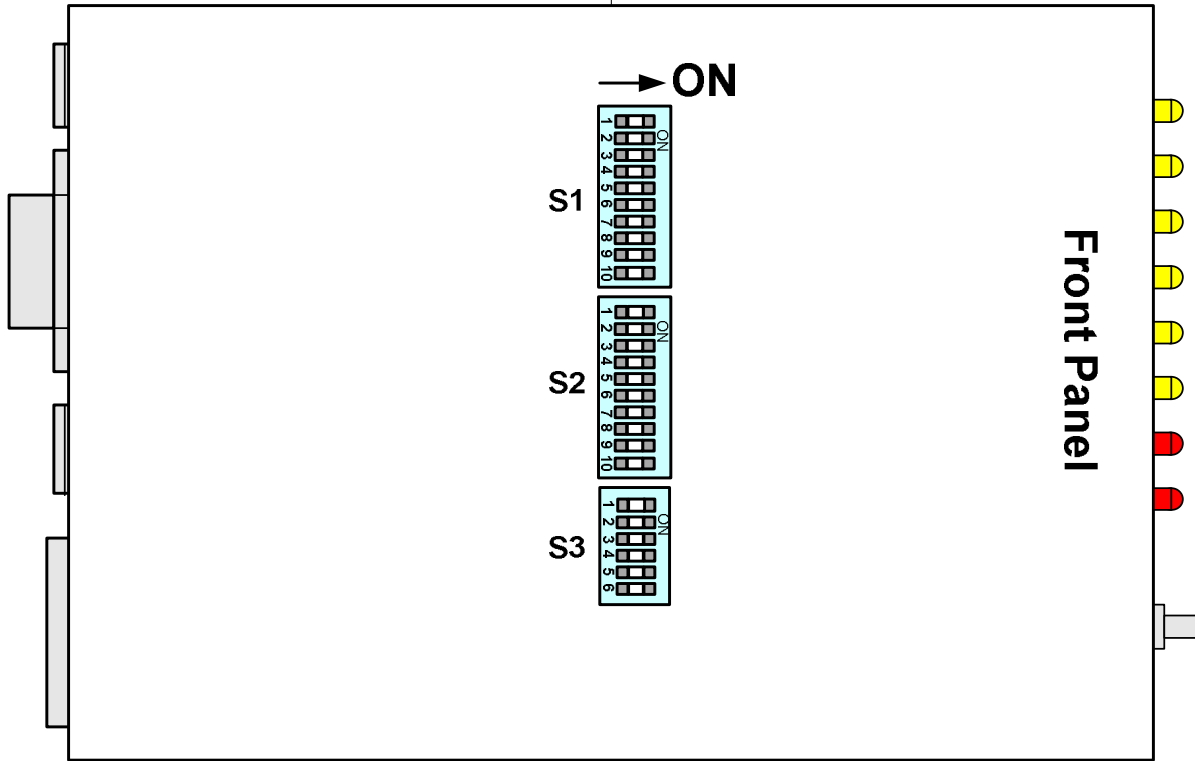

Figure 2-4. SM19202 Fast-Poll Stand-alone Modem Switches
2. Due to re-designing of the modem's main assembly circuit board and the chassis, you do not need to open the enclosure to get access to the DIP switches . Place the modem on a flat surface with the bottom up. The locations of the DIP switches for the stand-alone modem are shown in Figure 2-4 on the next page. To set the configuration for the modem, use a sharp pin or small screw driver to slide the switch lever to the ON or OFF positions as shown in Table 2-1.